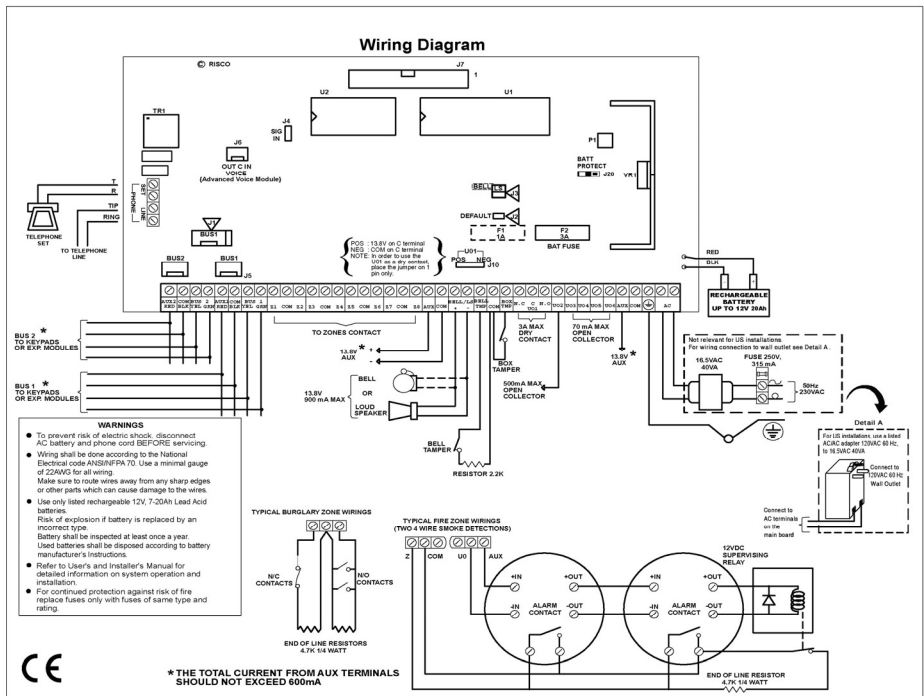

Figure 2-2: Main Panel Wiring Diagram
To connect a 4-wire smoke detector or devices that require resetting after an alarm condition, connect the Auxiliary power **AUX** and UO terminals (refer to Figure 2-2 on page 2-3, for smoke detector wiring). Remember to define the UO as Switched Auxiliary (refer to the **Switch AUX** parameter described in Chapter 5, Quick Key [3][1][14]). Using the Installer Programming Menus).
- ◆ Connect the bell tamper to the **BELL TMP** and **COM** terminals on the Main Panel, as illustrated in *Figure 2-2* on page 2-3.
- ◆ Connect the box tamper to the **BOX TMP** and **COM** terminals on the Main Panel, as illustrated in *Figure 2-2* on page 2-3. Refer also to the diagram shown below.